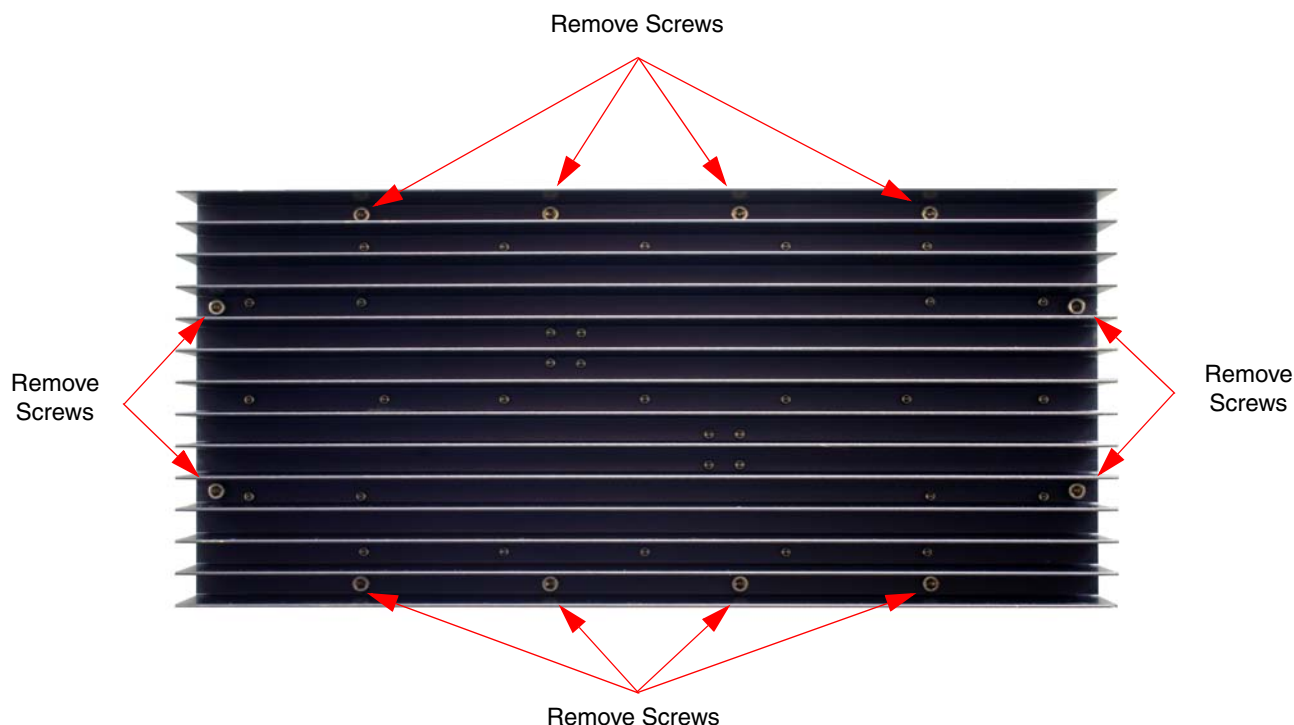

Figure 25: Remove mounting screws to detach channel module from cabinet.
- 6) Remove the 12 hold down screws (5/32" hex head) that hold the channel module assembly to the cabinet. The screw heads are accessible from the heatsink side of the assembly. Refer to **Figure 25**.